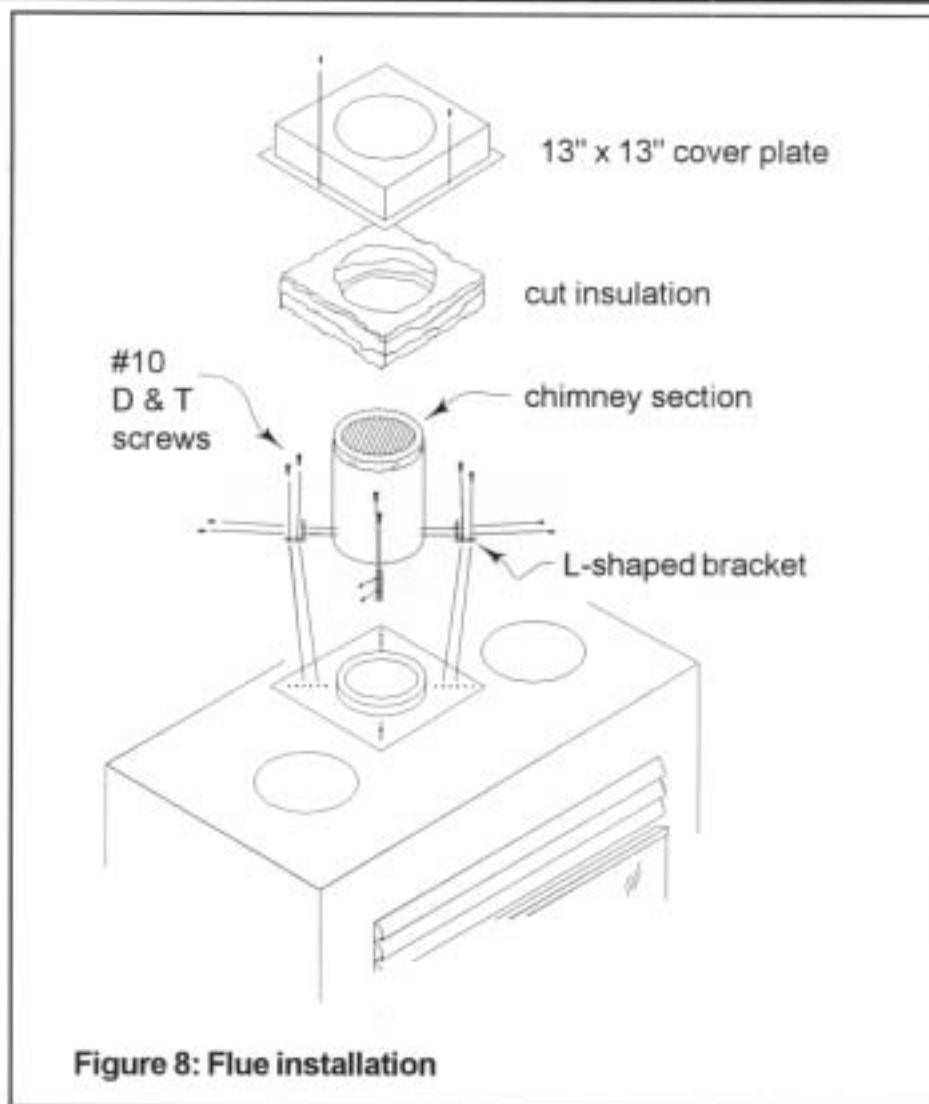

Figure 8: Flue installation
4. Place the first chimney length on the fireplace. Secure the chimney length to the fireplace with the four angle brackets provided (see Figure 8). Slide the cut insulation and the 13" x 13" cover over the first chimney length, then fasten the cover to the top of the fireplace with small drill and tap screws. Continue installing chimney lengths until you reach the desired height.